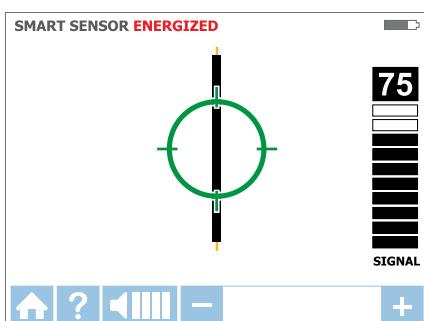

Figure 3.1e
5. Green target symbol indicates that the Receiver is directly over the wire. If Receiver will not lock on the wire, decrease sensitivity using the "--" on the keypad or set the transmitter to transmit at LOW level (Precision). (see Figure 3.1e)